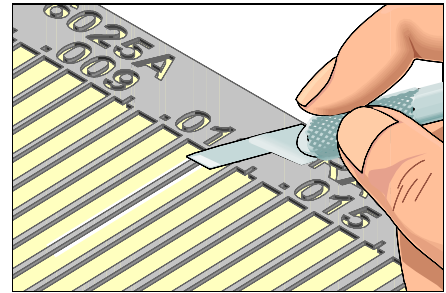

Figure 4: Cut out the new circuit. Cut from the plated side.
9. Cut out and trim the new conductor. Cut out from the plated side. Cut the length to provide the maximum allowable circuit overlap for soldering. Minimum 2 times the circuit width. (See Figure 4).